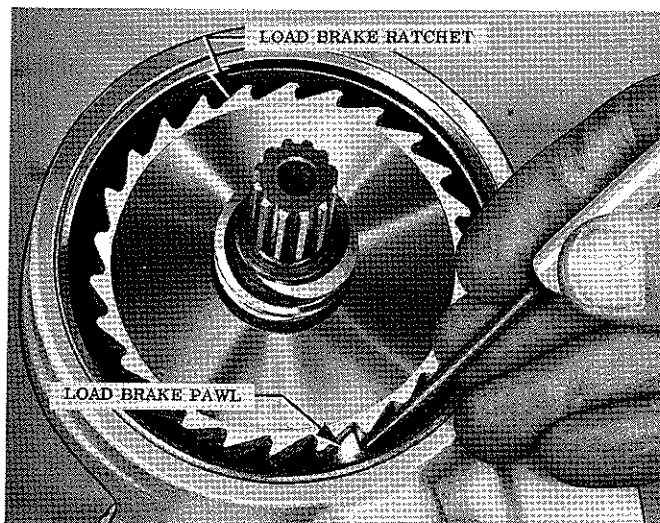

Figure 6-14. Installing Load Brake Ratchet
a. When installing load brake ratchet, be certain the teeth face in the proper direction to match angle on end of brake pawl. See Figure 6-14. A probe should be used to depress the brake pawl to allow the ratchet to fall into place.